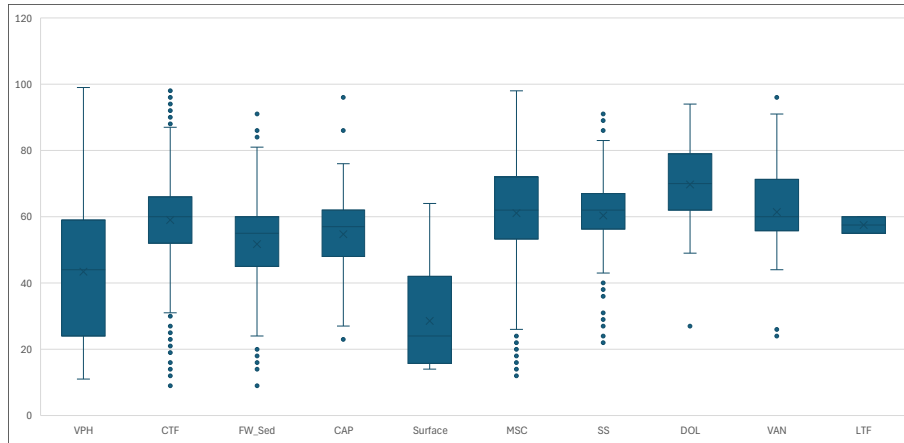

Figure 4: Example Box and Whisker Diagram
- h) Provide Box and Whisker diagrams summarizing the following parameters by domain (see Figure 4):